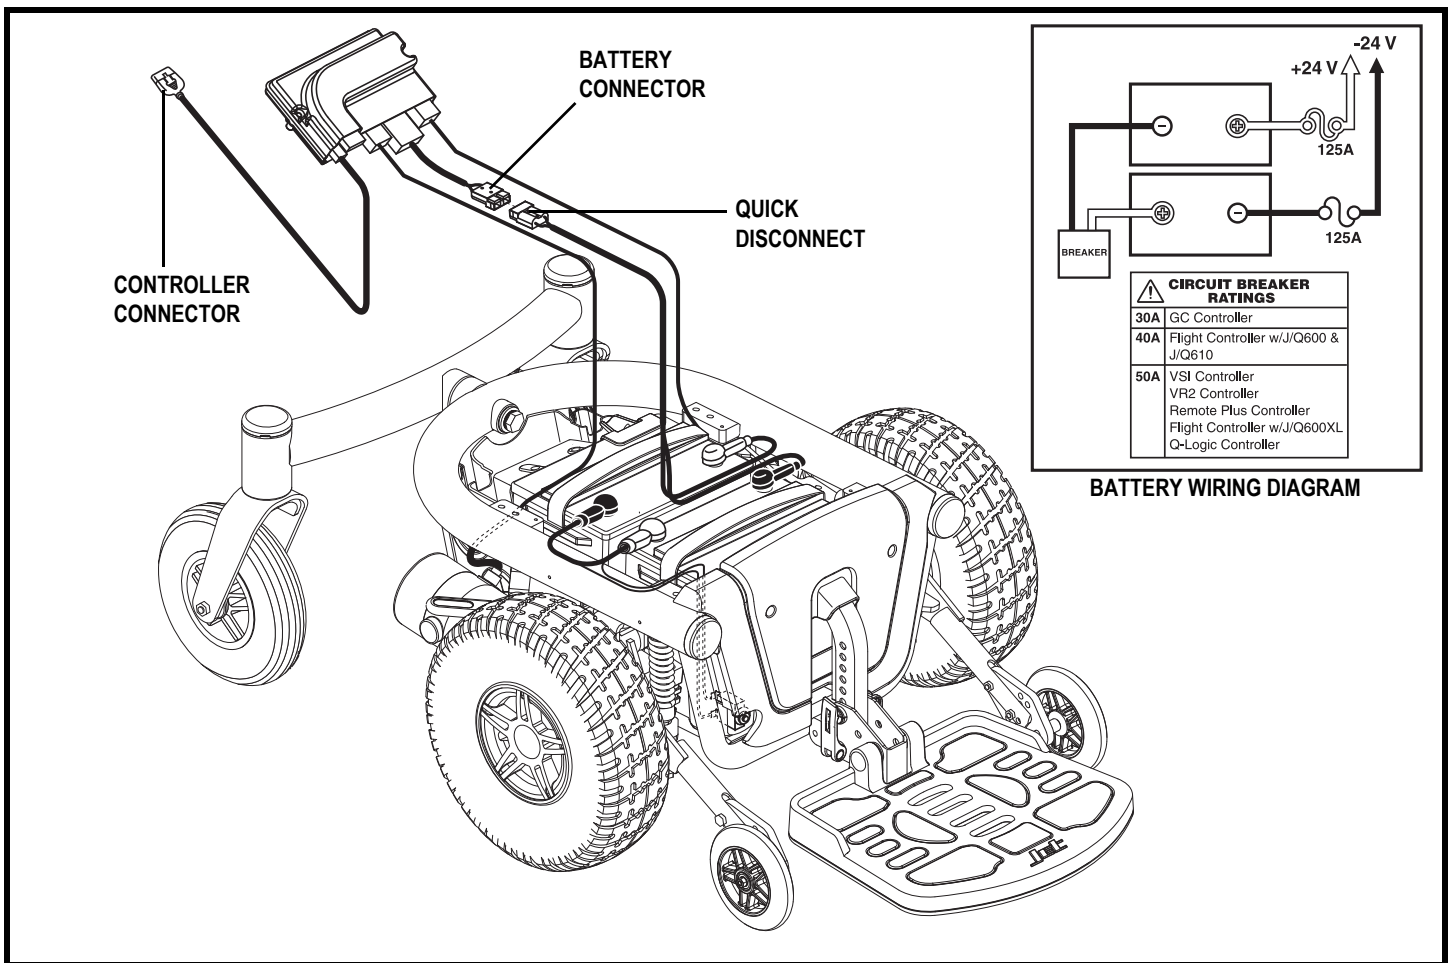

Figure 28. Battery Connections
5. Unplug the battery connector. **See figure 28.**
16. Connect the wiring harnesses to the rear battery. **See figure 28.**
19. Connect the wiring harnesses to the front battery. **See figure 28.**